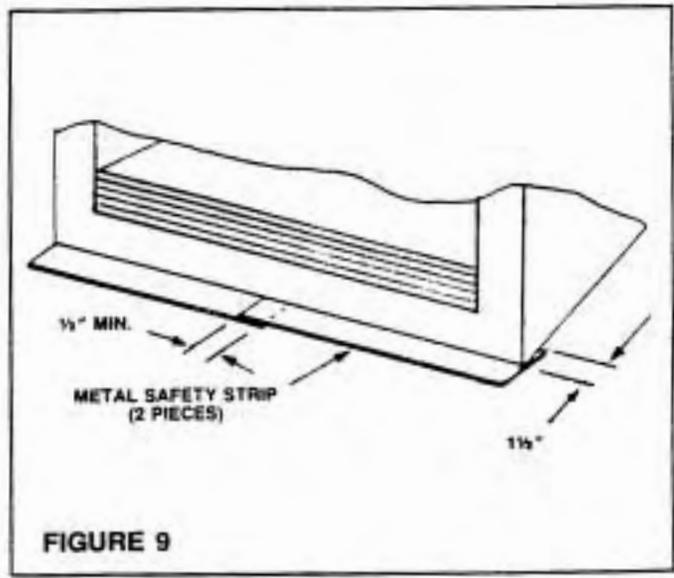

FIGURE 9
STEP 1: Frame the cavity or opening for the fireplace at the chosen location (Figure 8). Move the fireplace into position and install metal safety strips (provided) under the fireplace as shown in Figure 9.